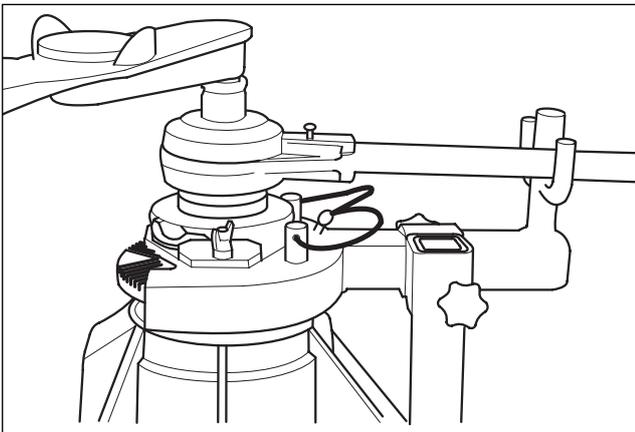

Fig. 4.15
10. Tighten flange lock nut to a torque of 2000-2500Nm (Fig. 4.15)